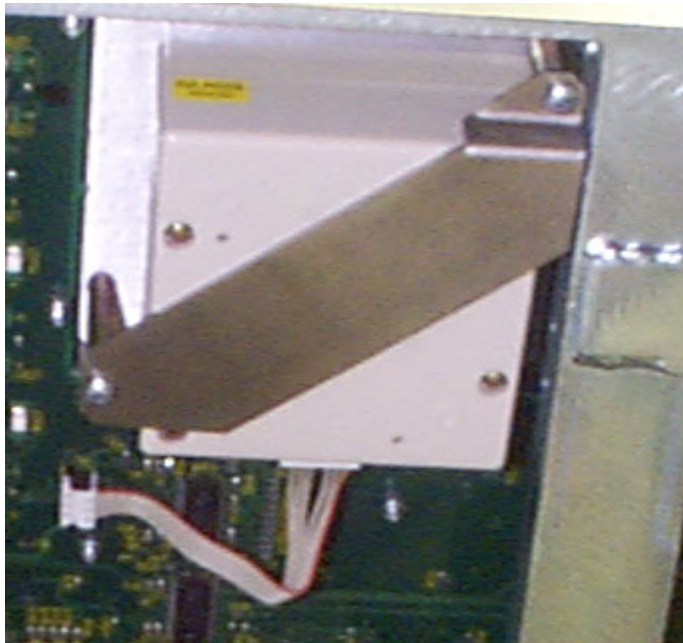

Figure 8-41 Trackball Removal
- 2) Disconnect the trackball cable from the trackball unit - see Figure 8-41 below.